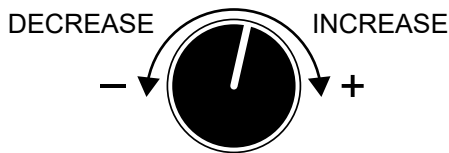

Figure 9. Voltage Regulator
7. If the voltage is not within the specified tolerance, use the **voltage regulator** (Figure 9) to increase or decrease the desired voltage.